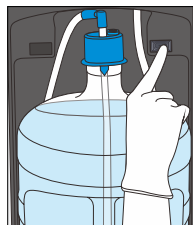

Figure 8
- To disable the heating function (Hot Water), turn off the **Energy Saving Switch** (Figure 8).